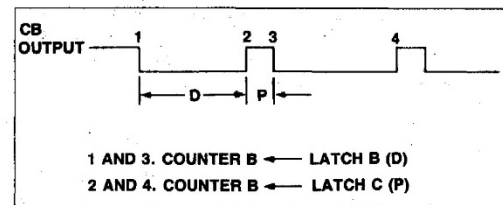

Figure 6-5. Counter B Pulse Generation
2. The lower 8 bits of D are loaded into LLB by writing to address 001C, and the upper 8 bits of D are loaded into ULB by writing to address location 001E. Writing to address location 001E also causes the contents of the 16-bit Latch B to be downloaded into the Counter B and causes the CB output to go low as shown in Figure 6-5.